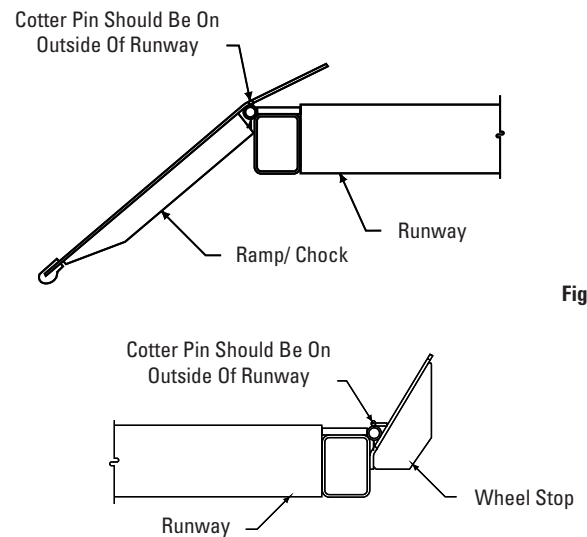

Fig. 29
- 21. Assemble** ramp/chocks and wheel stops to runways using hinge pins and cotter pins. Ramp chocks go on rear and wheel stops go on front of runway, Fig. 29.